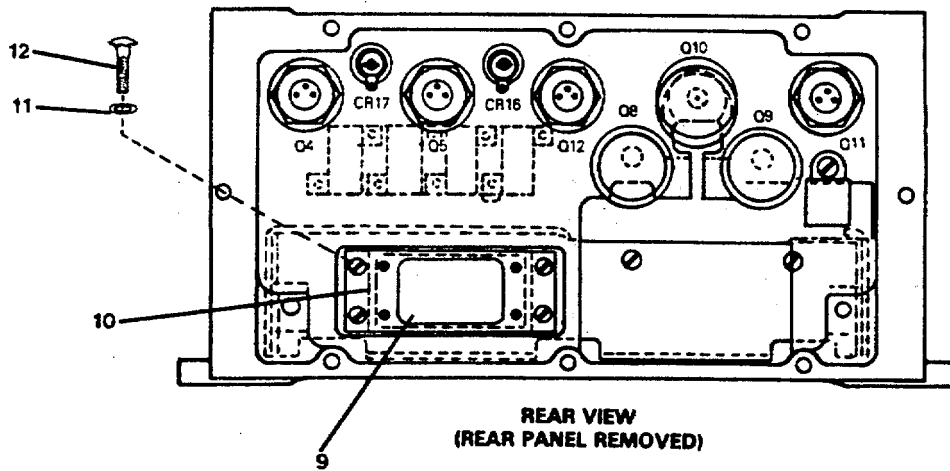

FIGURE 2-5. Cable (C-LC12) Replacement.
- (1) On pilothouse IC/ELEX panel, set circuit breaker No. 1 (MK 27 GYRO PWR XFR CONV UNIT) to OFF. Tag "Out of Service, Do Not Operate."
- (2) On pilothouse dc panel, set circuit breaker No. 1F (MK 27 GYRO PWR XFR UNIT) to OFF. Tag "Out of Service, Do Not Operate."
- (3) Remove gyro compass (para. 2-12).
- (4) Remove four bolts (6, FIGURE 2-5) that mount gyro control and power assembly (13).
- (5) Position gyro control and power assembly (13) for access to rear of assembly.